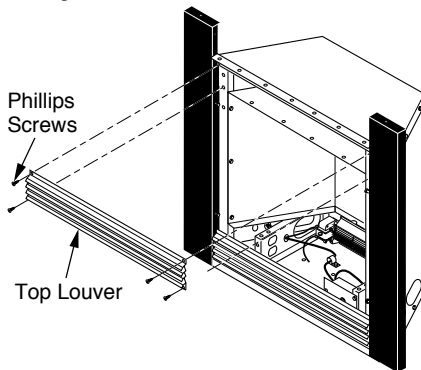

Figure 7 - Removing Louver
- Using Phillips screwdriver, remove four screws attaching top louver (see Figure 7).